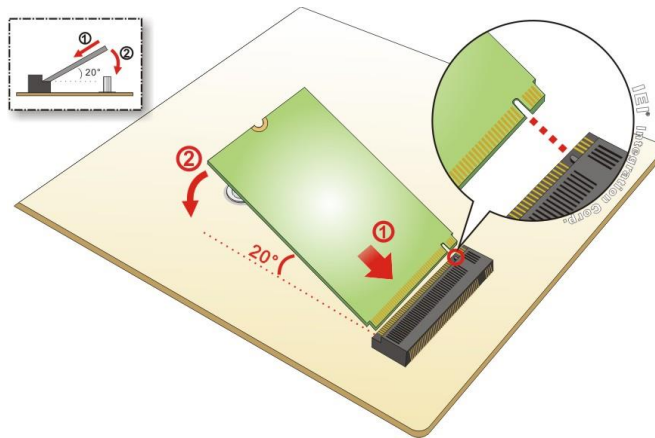

Figure 4-2: Inserting The M.2 Module Into The Slot At An Angle
- Step 3:** Line up the notch on the module with the notch on the slot. Slide the M.2 module into the socket at an angle of about 20° (**Figure 4-2**).